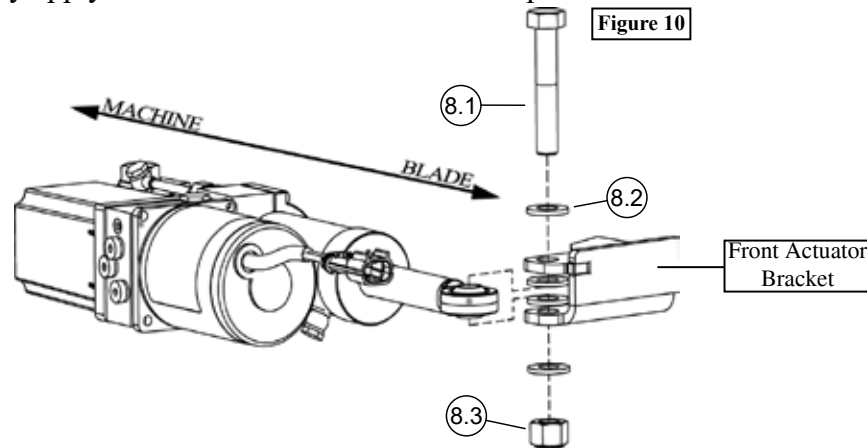
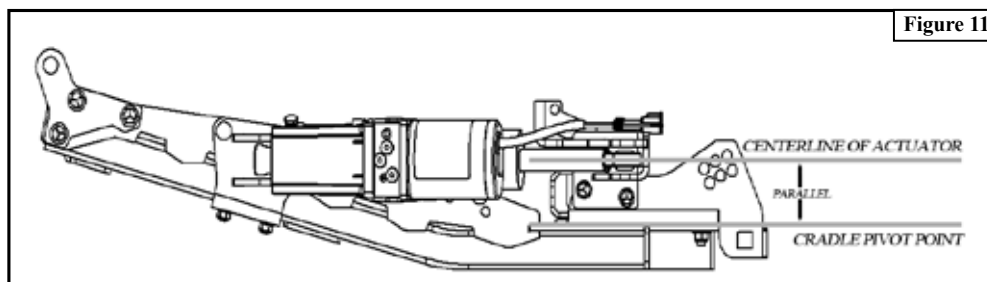

Figure 10
Figure 11
- Repeat previous step for mounting the front half of the actuator, as shown in **Figure 10**. It is most important that you use the washers to make sure that the actuator is parallel to the cradle swivel point, as shown in **Figure 11**. Both front, and rear bolts should not be tight, thread the nut on until Nylock is fully engaged.